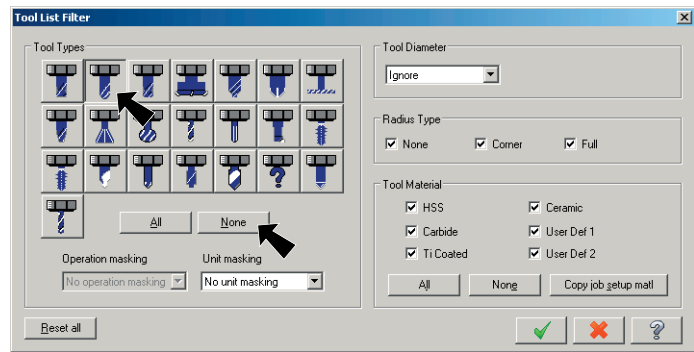

Fig. 28
Step 3. Click **None** button under **Tool Types**, **Fig. 28**.
Step 4. Click **Endmill2 Sphere** button (second button top row), **Fig. 28** and click OK.